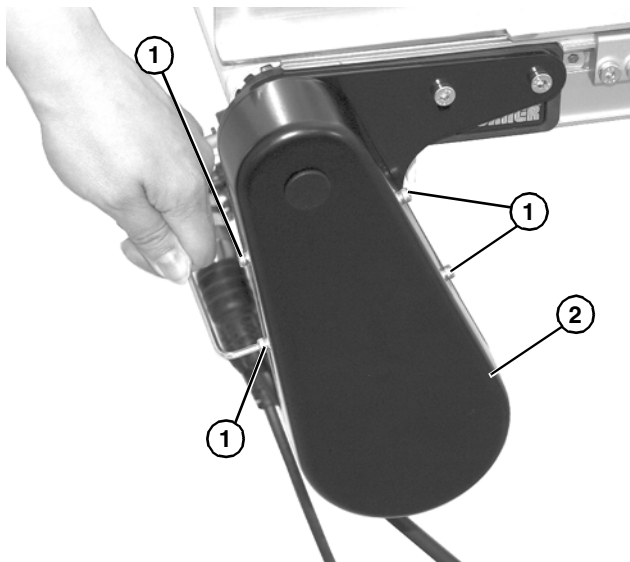

Figure 56
2. Remove four M4 screws (**Figure 56, item 1**) and cover (**Figure 56, item 2**).
8. Install cover (**Figure 56, item 2**) with four (4) screws (**Figure 56, item 1**). Tighten screws to 14 in-lb (1.6 Nm).